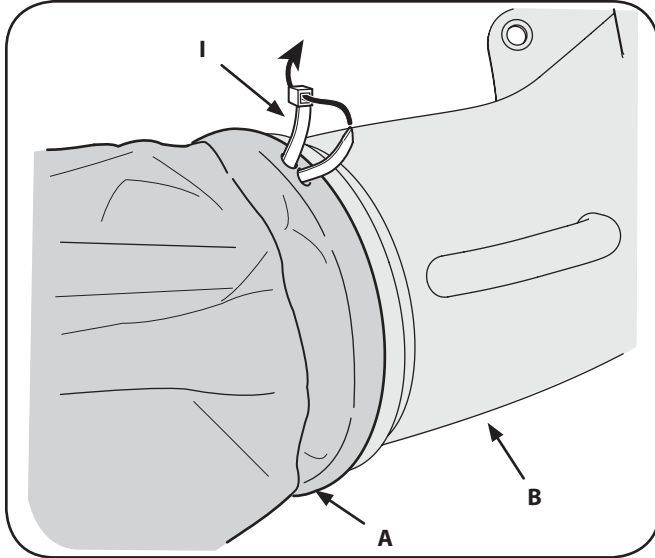

Figure 8
2. Use the cable tie [I] to secure bag to chute assembly by inserting the cable tie into hole in bag and pulling through. Make sure cable is positioned so it ties bag around indented groove (over flange) of chute. See Fig. 8. Pull cable tight with pliers.